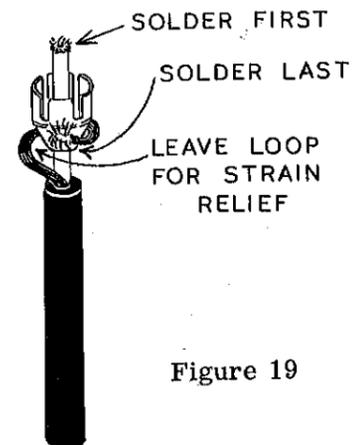

Figure 19
- () Install the phono connectors on each end of the cable as shown in Figure 19. Insert the prepared inner conductor through the back of the connector until it will go no further. A small amount of wire should show at the tip of the connector. Solder the wire to the connector at this point. Next, wrap the shield braid around the plug shell and solder securely. Repeat the operation for the opposite end of the cable, unless the audio equipment to be used with the tuner uses some other type of connector.